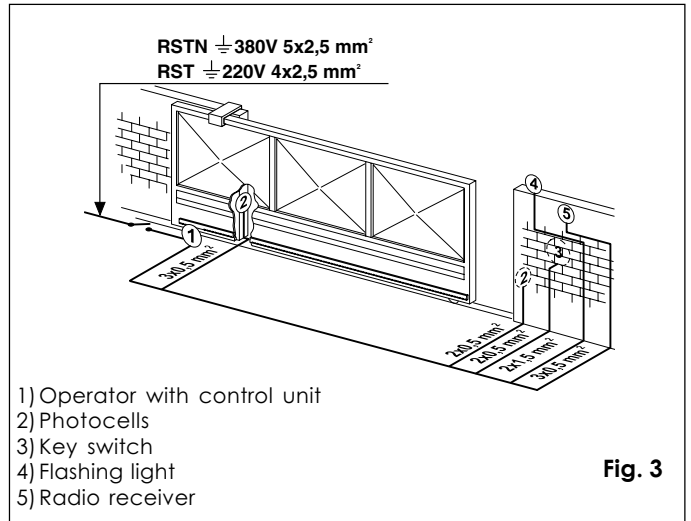

Fig. 3
- 4) Set up the electrical cables for connection to the accessories and the electricity supply as described in fig. 3. For ease of connection, ensure that the cables protrude by about 1 m from the hole in the base plate.
As shown in Fig. 3, prepare the conduits and make the electrical connections from the electronic control unit to the chosen accessories.